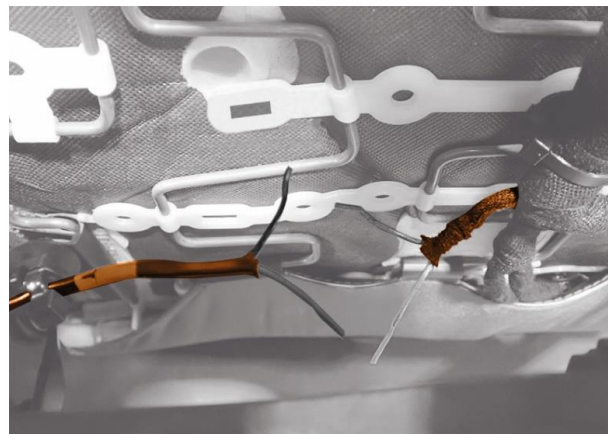

Figure 5 – Strip Wire Conduit and Tape
8. Strip a sufficient length of conduit and cloth tape from the wiring such that the heat-sealing tubes can be inserted (Figure 5).